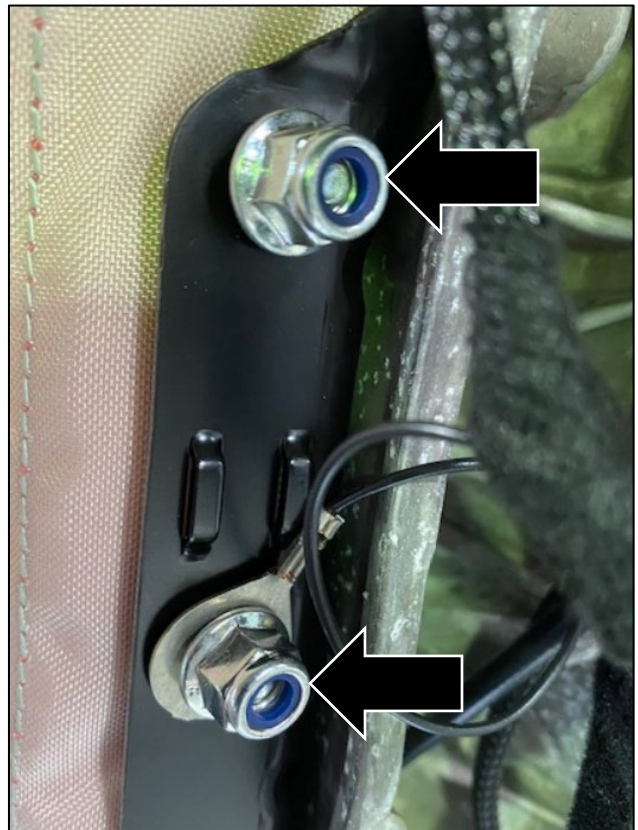

Figure 6
- This image shows two locking nuts that are incorrectly installed (Figure 6).